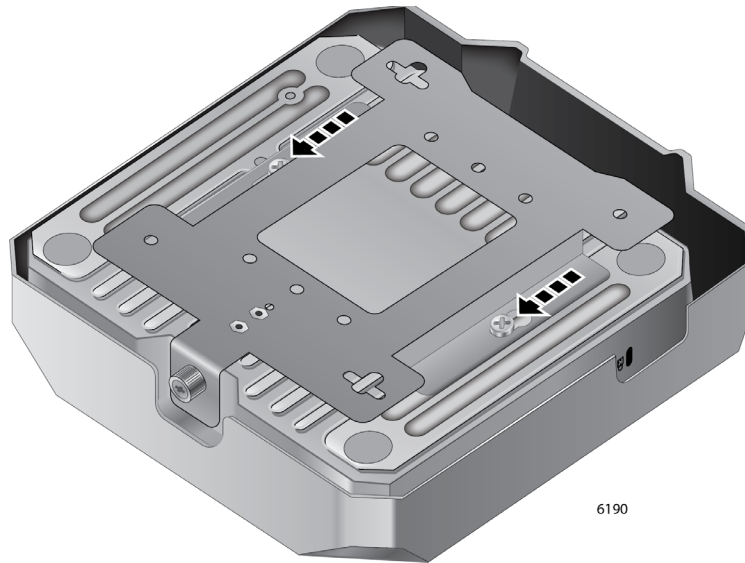

Figure 10. Attaching the Mounting Bracket on the Access Point
3. Make sure that the mounting bracket fits to the access point by sliding the bracket beneath the screws as shown in Figure 10.